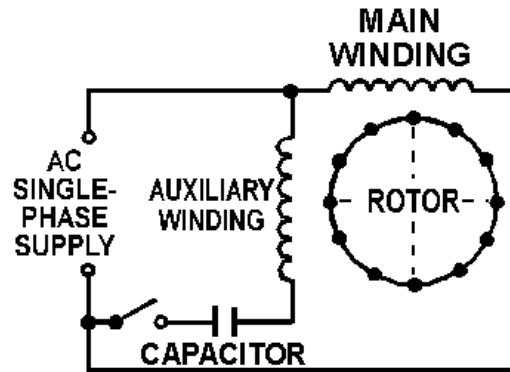

Figure 4-11.—Capacitor-start, ac induction motor.
**CAPACITOR-START.**—The first type of split-phase induction motor that will be covered is the capacitor-start type. Figure 4-11 shows a simplified schematic of a typical capacitor-start motor. The stator consists of the main winding and a starting winding (auxiliary). The starting winding is connected in parallel with the main winding and is placed physically at right angles to it. A 90-degree electrical